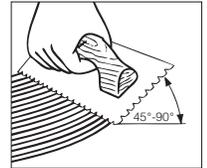

Figure 4
- Hold the trowel at a minimum 45° angle (Figure 4) firmly against the subfloor to obtain a 40–60 ft.2 (4–5.5 m2) per gallon spread rate.